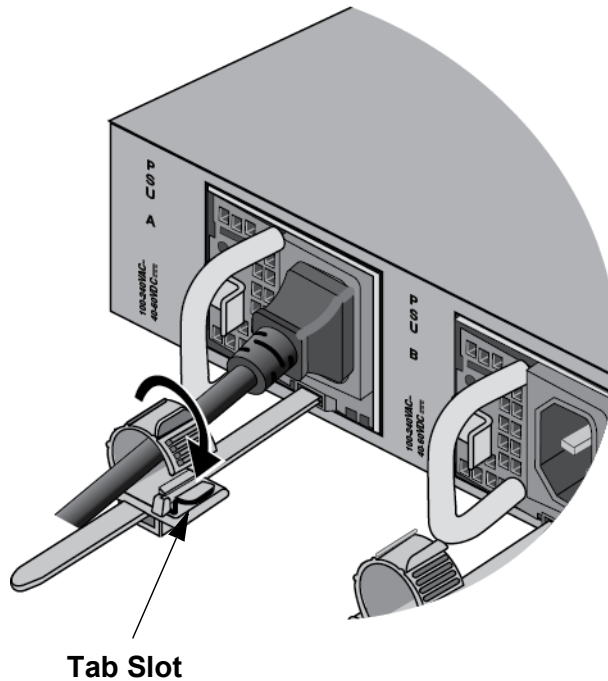

Figure 121. Securing the Power Cord with the Restraining Strap
2. Move the power cord into the restraining strap and secure the strap by feeding it into the tab slot. Refer to Figure 121 on page 193.